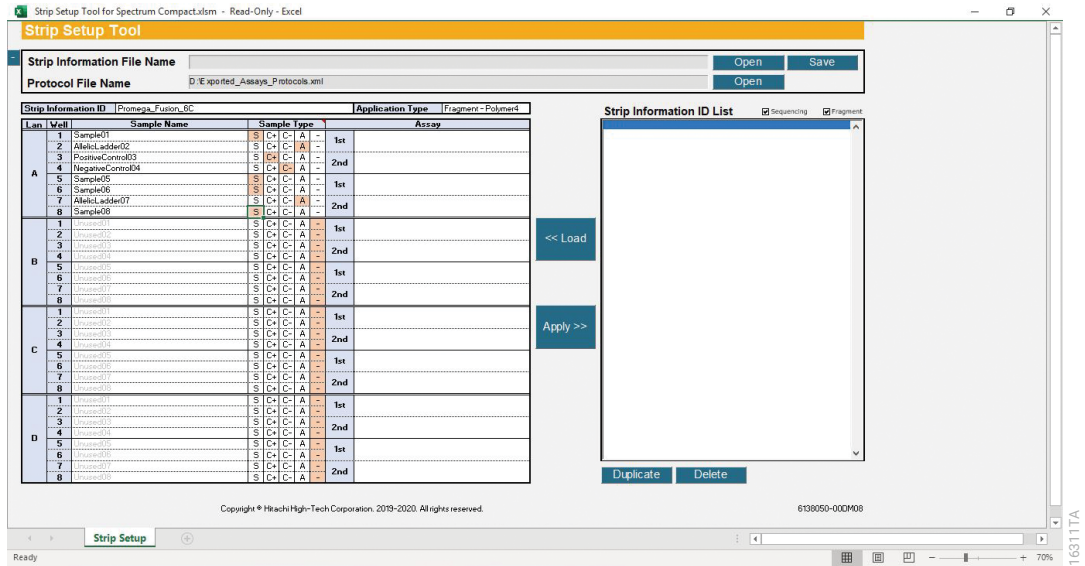

Figure 244. Strip Setup Tool for Spectrum Compact with Sample Type selected.
1. Select the cell immediately to the right of the Strip Information ID cell and enter the new Strip Information ID (Figure 244).
3. For each lane (i.e., strip), select a Sample Type for each well that will contain a sample by selecting that cell (Figure 244).